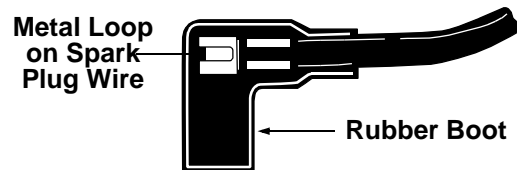

Figure 13
1. Attach spark plug wire to spark plug. Make certain the metal loop on the end of the spark plug wire (inside the boot) is fastened securely over the metal tip on the spark plug. See Figure 13.